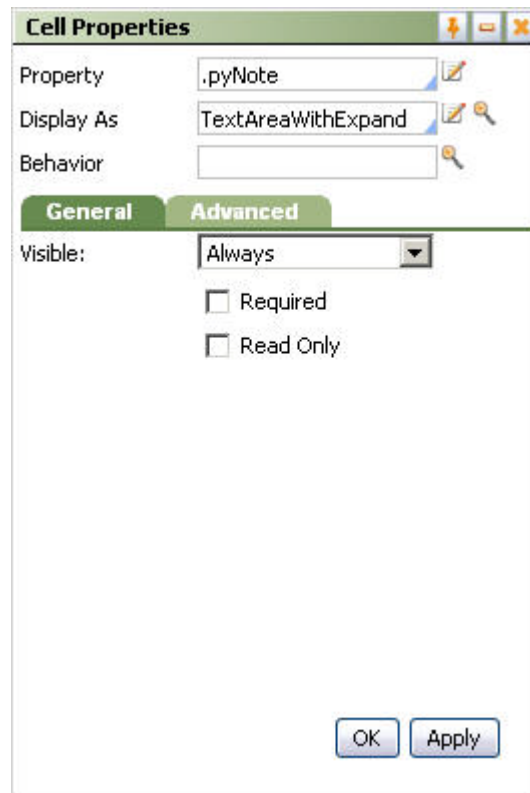

Figure 4-10. TextAreaWithExpand Format Option
- l. Select **TextAreaWithExpand** using SmartPrompt in the Display As field as shown in Figure 4-10.